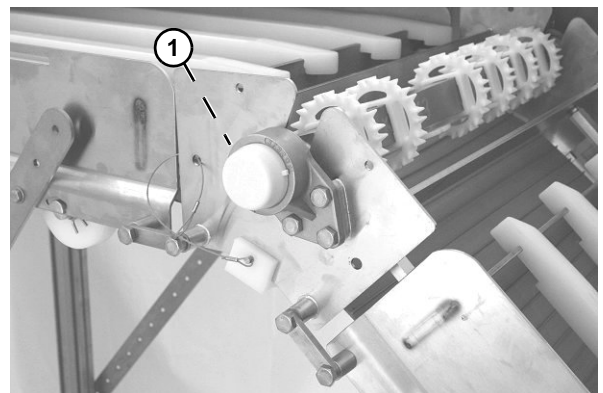

Figure 42
2. On LPZ knuckles, add grease to grease fitting (**Figure 42, item 1**).